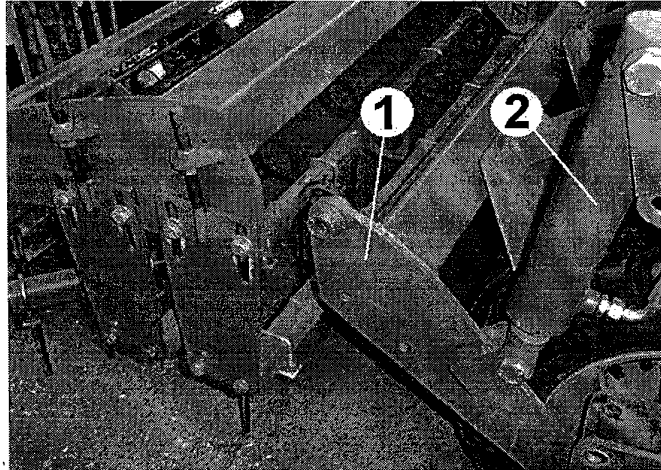
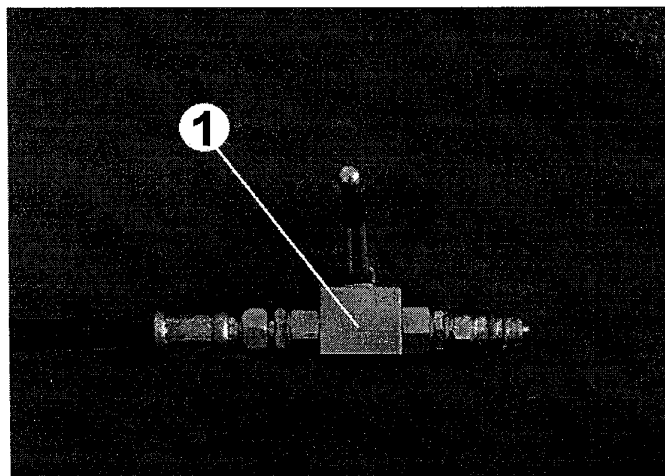
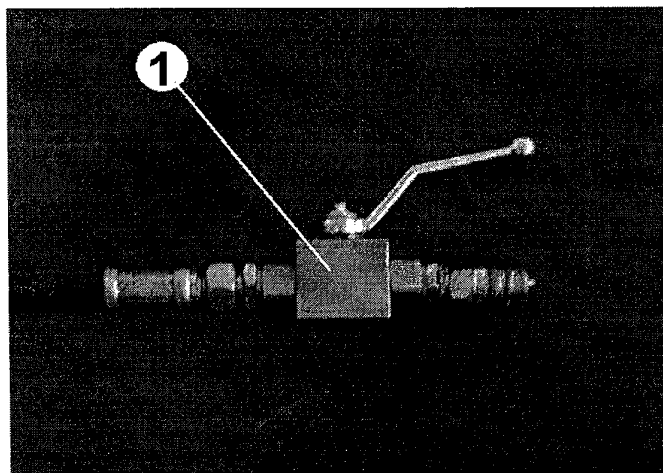

Fig 9
Fig 10
Fig 10a
Behind the press wheels, a lift frame (item 1, fig 9) provides the support for the tines crumbler roller etc. The frame has two lift rams (item 2, fig 9) which when actuated lifts the frame and simultaneously the tines etc. At the point at where the hydraulic hose is connected to the tractor, a lock valve is fitted. This allows the lift frame to be locked in its up position when disconnecting the machine from the tractor. To lock, the handle (item 1, fig 10) should be in the position shown. Conversely, to unlock the handle should be in the unlock position, see fig 10a.